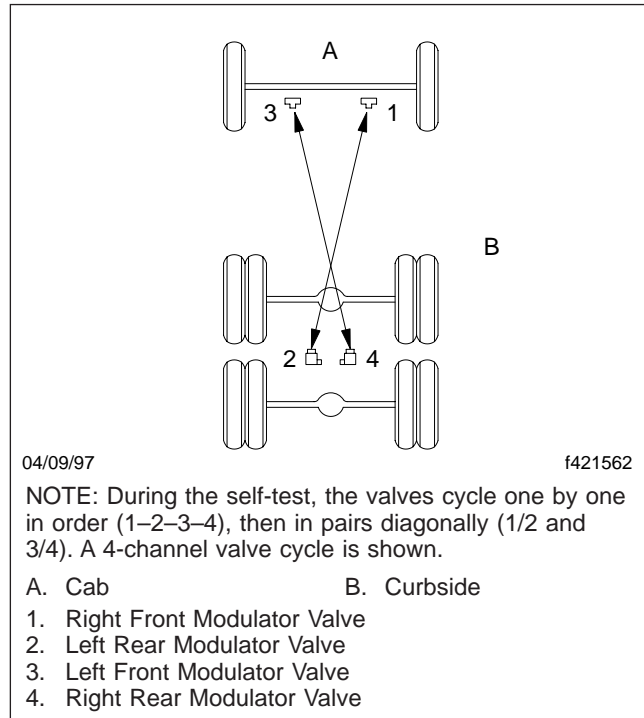

Fig. 2, Modulator Valve Self-Test Sequence
3. When the ABS warning light comes on, listen for the modulator valves to cycle one by one, then together diagonally. See Fig. 2.